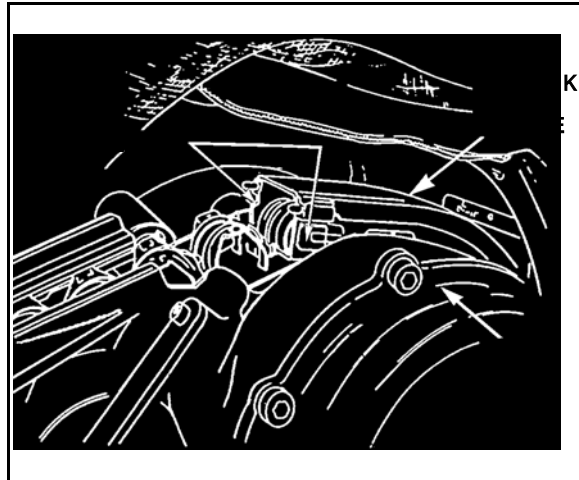

Figure 3. Latches.
- (1) Squeeze the latches (Figure 3, page 3-124).